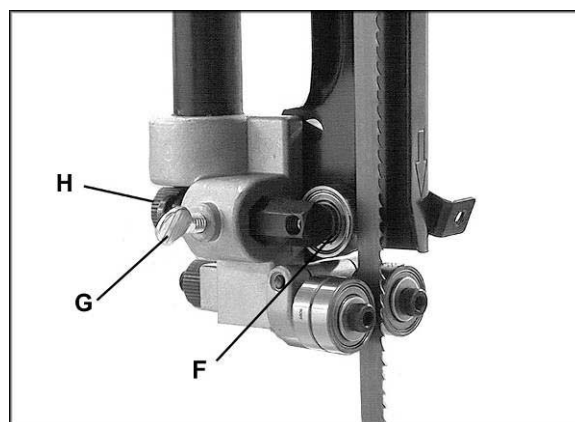

Figure 49
The thrust bearing (F, Figure 49) supports the back edge of the blade during operation, and is set so that the blade will contact it only when the blade is under pressure during a cut.
- Loosen thumb screw (G, Figure 49) and turn knob (H) to move the thrust bearing (F) in or out until the bearing is approximately 0.016" (or 1/64") behind the blade. You can use a feeler gauge to set this distance, or simply place a crisp dollar bill folded twice (four thicknesses) between the thrust bearing and the blade. (A dollar bill is approximately 0.004" thick, so four thicknesses provides the necessary distance.)